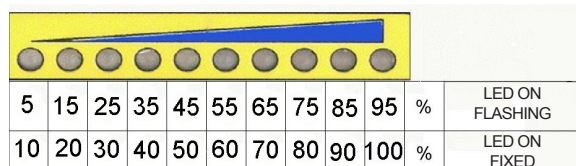

Fig. 8
11. START-UP (see Fig. 8/9/10)
The flow rate scale (Fig. 8) is divided into green leds to indicate the screw pump speed percentage. a flashing led indicates a value of 5%, which must be added to the number of fixed leds each of which indicates a value of 10%